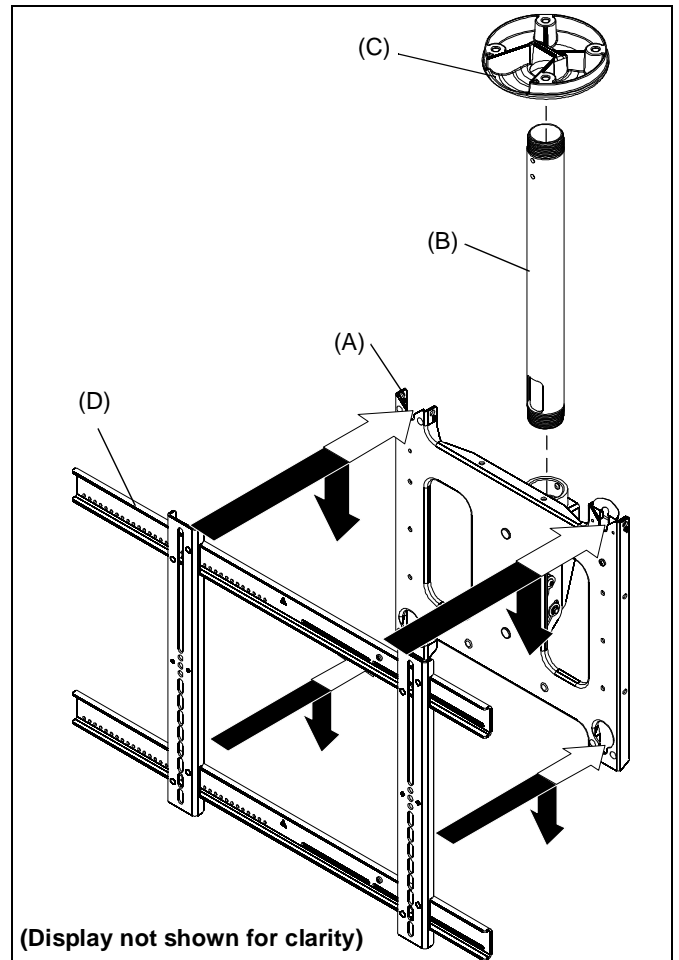

Figure 2
4. Attach the CMS018 (B) to the CMS115 (C) following instructions included with the CMS018. (See Figure 2)
5. Attach the PCS (A) to the CMS018 following instructions included with the PCS.